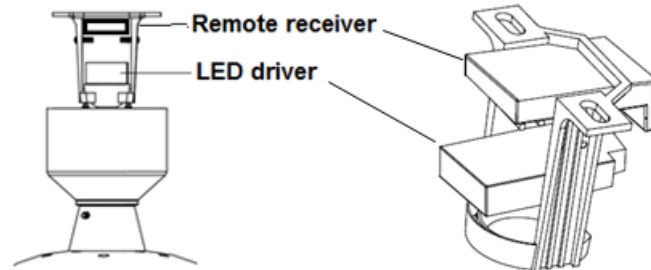

Fig. 4
- Carefully lift the fan and place the down rod ball assembly into the spacing allocated in the mounting bracket and lock the ball into place. Insert the LED driver into the lower layer of the mounting bracket and then insert the remote receiver into the top layer of the mounting bracket. **Fig. 4**